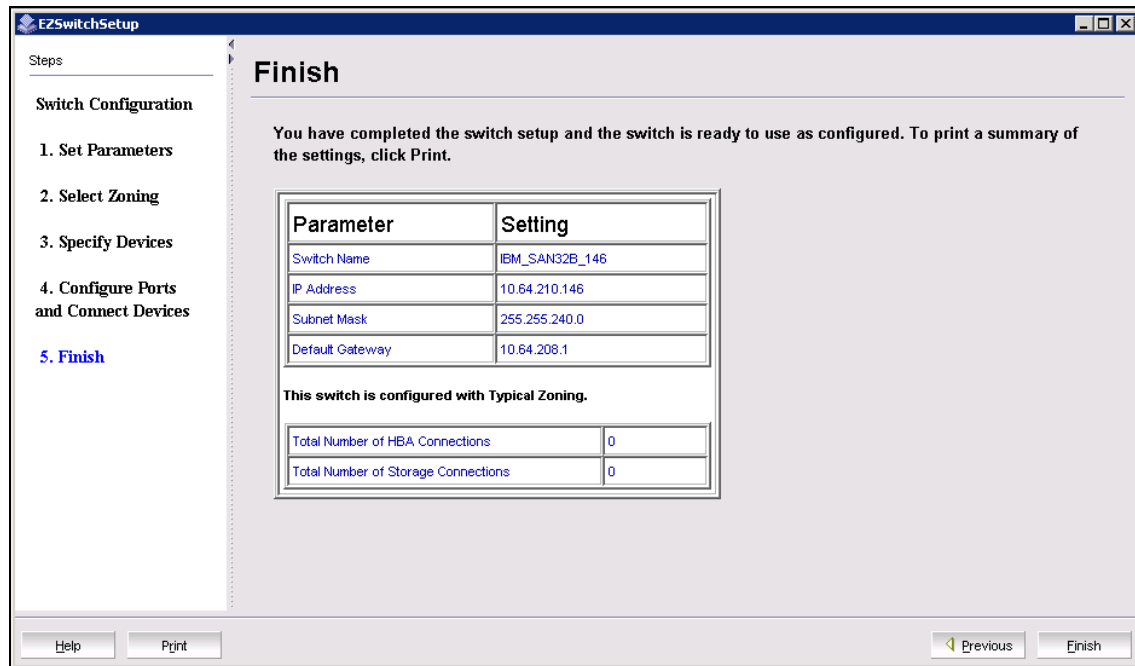

Figure 6-17 EZSwitchSetup - Finish
12. The final setup panel (shown in Figure 6-17) displays a summary of the switch configuration. At this point, the process is complete.